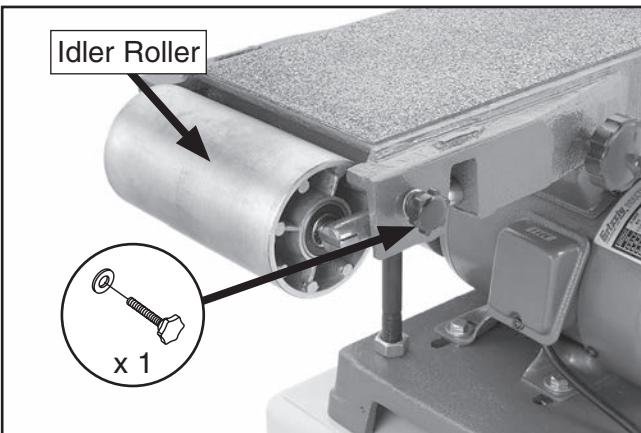

Figure 23. Idler roller installed.
3. Slide the flat ends of the idler roller into the slots on the roller adjustment bars (see **Figure 23**).
4. Install (1) $\frac{1}{4}$ "-20 x $\frac{1}{2}$ " thumb knob and (1) $\frac{1}{4}$ " flat washer onto each side of sander behind idler roller (see **Figure 23**).